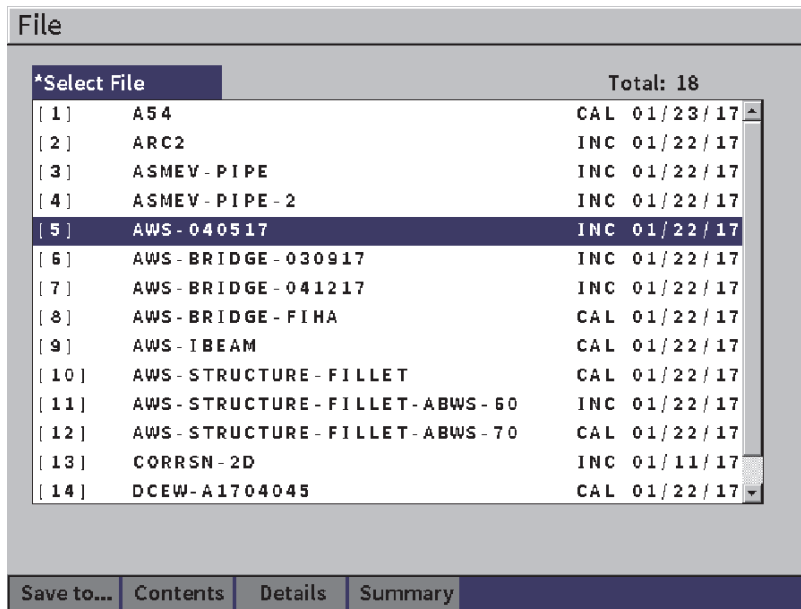

Figure 9-4 File setup page
1. On the **Settings** menu, select the File icon to open the **File** setup page (see Figure 9-4 on page 108).
1. With the selected file highlighted, press the Enter key, and then press the Tab key to highlight the **Save to...** button (see Figure 9-4 on page 108).